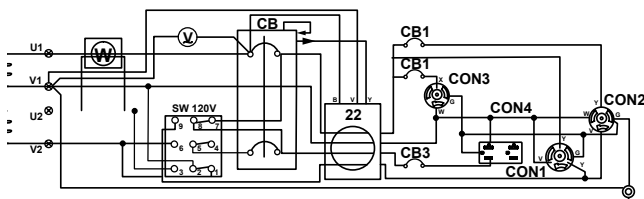
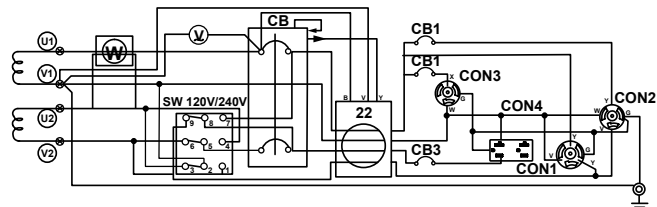

Figure 8. 120V Full Power Switch Simplified Diagram (Up Position)
Figure 9. 240/120V Full Power Switch Simplified Diagram (Down Position)
35. Full Power Switch — The generator is provided with a full power switch. See Figure 8 and Figure 9 for simplified wiring diagrams of the dual voltage system.